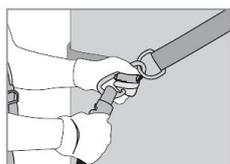
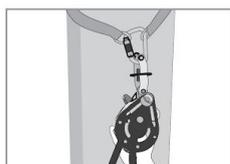

Fig 1
Fig 2
Once the installation location has been determined, start by checking the passage of the rope through the tensioner (see drawing opposite), you must check based on the positioning bolts (in red on the drawing) / of the anchorage cam/ring / of the end swivel and the rope entry and exit points (green arrows on the drawing). Connect the connector on the end swivel onto one of the attachment points (Fig. 1) and on the connector on the tension indicator on the second attachment point (Fig. 2). Make sure the two connectors are properly closed AND locked. Open the cam lever (4) and keep it open by lightly pressing the locking button (3). Make sure the 2 plates on the tensioner (5 and 6) are closed, the 4 positioning bolts (7) on the pulley plate (6) must be totally engaged in the end plate (5) and it must be held closed using the locking button. Under normal use, you do not have to open these two plates, but this opening is necessary during verification operations.